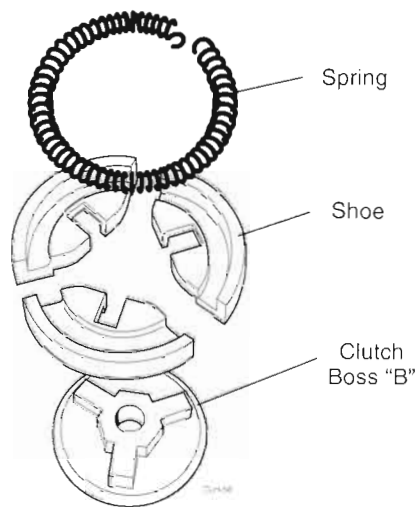

Figure 6.15 Exploded View of Shoe Assembly (300-377)
STEP 2. Place the shoe assembly on the workbench, and then carefully remove the individual clutch shoes from the circular retraction spring (Figure 6.15).